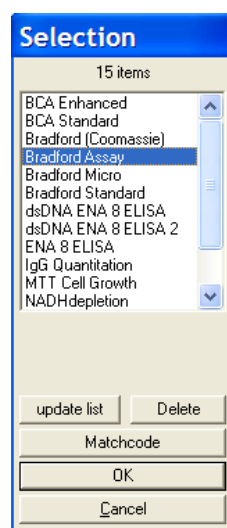

Figure 8-16: Selection – Test definitions
2. From the File menu, choose **Open**. Selection appears with a list of saved tests (Figure 8-16).